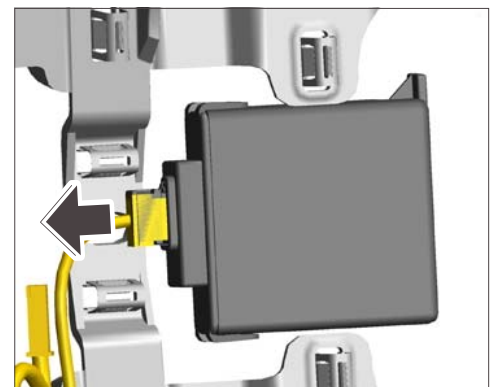

Figure 2
- 2.1.1 Disconnect plug connection for interior sensor ⇒ *Figure 2 -arrow-*.